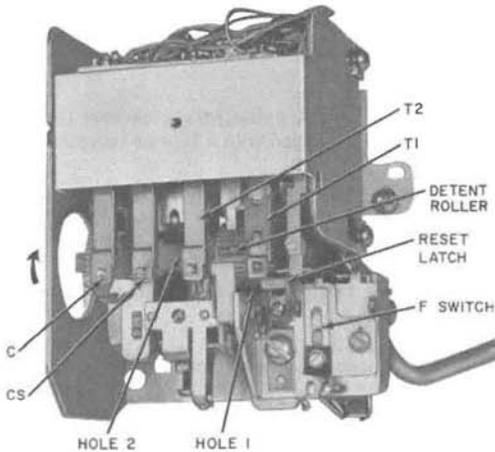

Fig. 11—Checking Totalizer Rate
Use extreme care when checking initial rate or resetting totalizer. Avoid damaging pawl and spring pile-ups. Do not attempt to turn totalizer cam shaft in direction opposite to that shown in Fig. 11.
- (1) Remove 1AA chute per 2.12.
- (2) Loosen retaining screw and remove transparent dust cover.
- (3) Rotate shaft in the proper direction (Fig. 11) until detent roller on detent wheel is positioned between the two black marks. This occurs at the same time T2 rests in depression in shaft. This position is called *home* position.
- (1) Rotate shaft in proper direction (Fig. 11) until it is in home position as described in 2.14 (3).
If hole 1 in T1 cam has been mutilated or clogged beyond use, place releaser or paper clip against tab as shown in Fig. 11 and push tab in direction of the straight arrow.